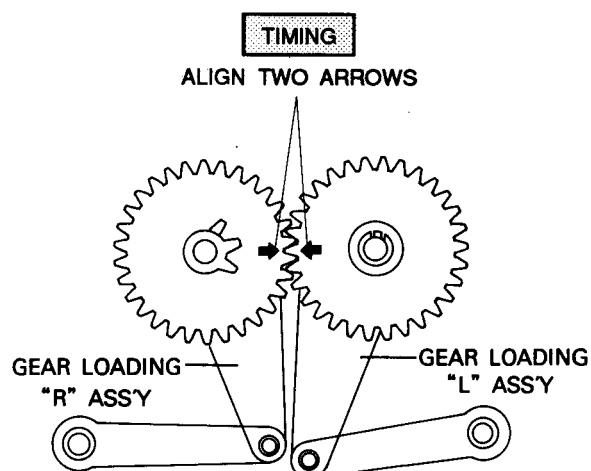

Fig. 49 Reassembly of Gear Loading "L", "R" Ass'y
1. Reassemble the gear loading L/R ass'y in the eject mode while aligning the timing mark. (Refer to Fig. 49)